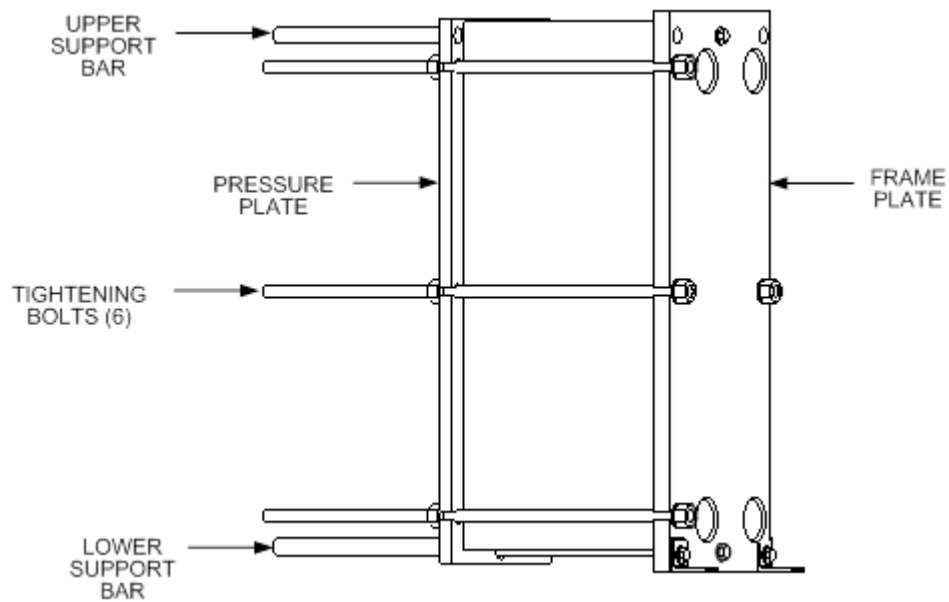

Figure 8-7. Double-Wall Heat Exchanger
4. Inspect the sliding surfaces of the upper and lower support bars (Figure 8-7) and wipe clean.